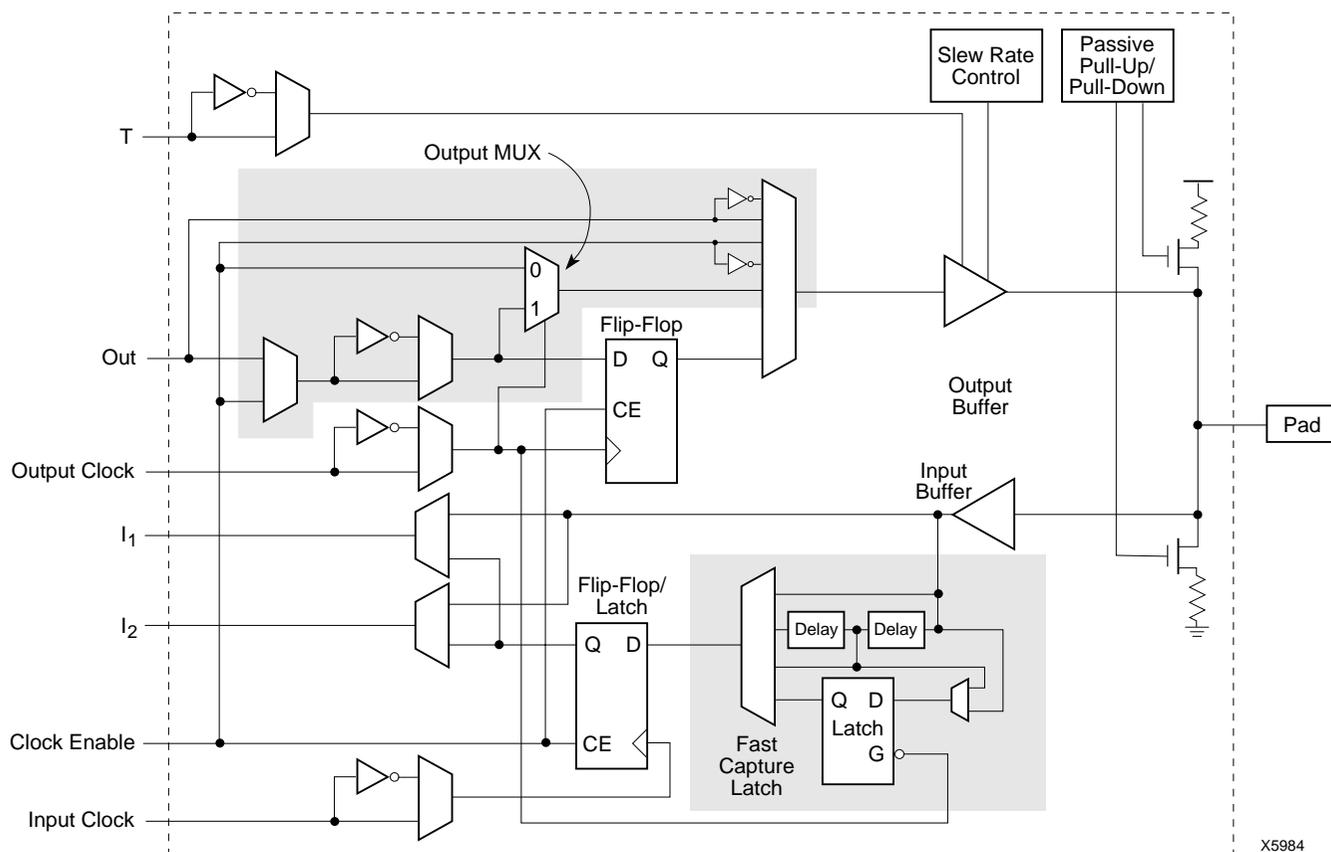
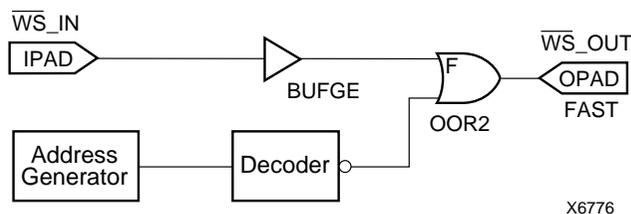

Figure 4: XC4000X IOB with Fast Capture Latch and Output Multiplexer (Mux)
Figure 7: Fast Write Strobe Generator
A new feature is included in the XC4000X expressly for this purpose, the Fast Capture latch. (See Figure 4.) This transparent-Low latch is included in each IOB, in series with the regular transparent-High input latch or rising-edge triggered flip-flop. The latch enable is easily accessible from the dedicated IOB clock lines, but need not be sourced by the same clock as the regular latch or flip-flop. Instead, the Fast Capture latch can be enabled by the faster clock path through the Global Early buffers.
To decrease the setup time, the delay on the input path must be decreased, relative to the clock delay. To retain a zero hold time, it cannot be decreased too much, as too short a delay would introduce a positive hold time requirement. The XC4000X IOB therefore includes a programmable 2-tap delay element, as shown in Figure 4. The standard delay can be used with the Global Low-Skew clock, and a zero hold time is guaranteed. Since a BUFGE has a shorter delay, a zero hold time is guaranteed for them as well. Similarly, a partial delay can be used with the Global Early clock, and a zero hold time is also guaranteed for BUFGE.
As shown in Figure 4, the XC4000X IOB includes a multiplexer on the output path. By placing the appropriate library element, any 2-input function can be implemented, including AND, NAND, OR, NOR, XOR, and XNOR, as well as a simple pass-gate. Or, of course, it can simply be used to multiplex two outputs, as described in the next section “Increasing Effective I/O” on page 7.
The delay through the output multiplexer is different for each input, as can be seen from the diagram in Figure 4. Sometimes a single input even has different delays, depending on the path through the multiplexer. To simplify the use of the output multiplexer, the special library symbols denoting the multiplexer have an “F” marked on one input. (See Figure 7.) This input comes from the output clock (OK) pin of the IOB, and always has the shortest delay through the multiplexer.
Multiplexed outputs are easily created using the XC4000X output multiplexer shown in Figure 4.